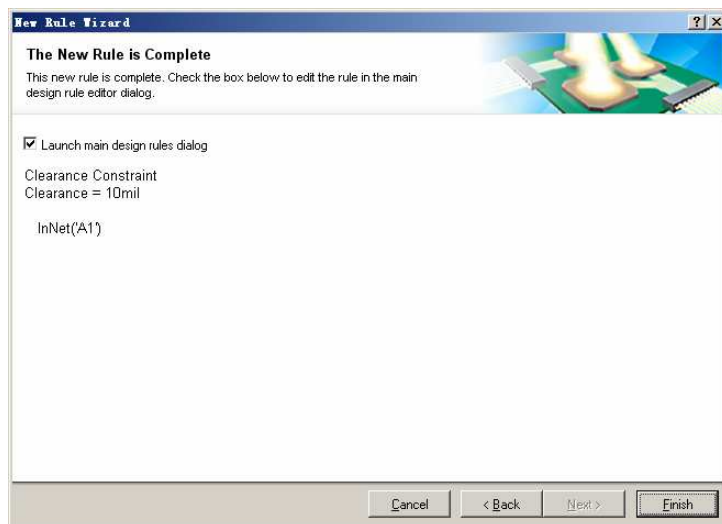

图 8.56 “The New Rule is Complete” 视图
(6) 通过单击“Decrease Priority”按钮可将所选的规则优先级下降一级，通过单击“Increase Priority”按钮可将所选的规则优先级升高一级。单击“Next”按钮，显示如图 8.56 所示的“The New Rule is Complete”视图。